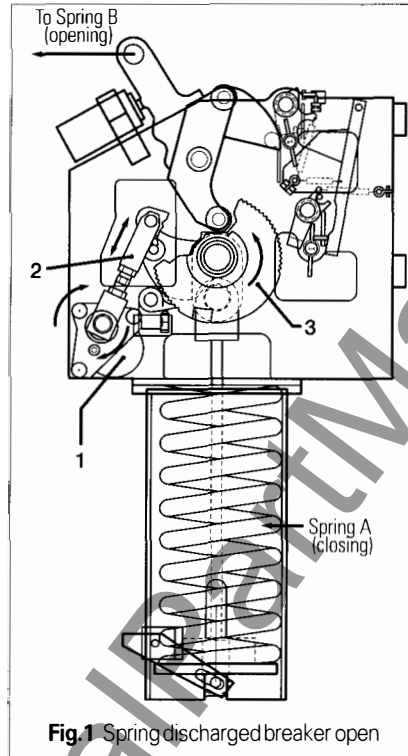

Fig.1 Spring discharged breaker open
As shown in Fig. 1, the closing spring is discharged and the breaker is in the open position. Before a closure can be initiated, Spring A must be charged. This is accomplished by a motor (1) with a ratchet arm (2), which imparts motion to a wheel (3) within the mechanism. The wheel turns (CCW) until Spring A is charged.